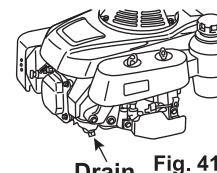

Fig. 41
2. Extract the fuel from the fuel tank and the carburetor. (See Fig. 41)